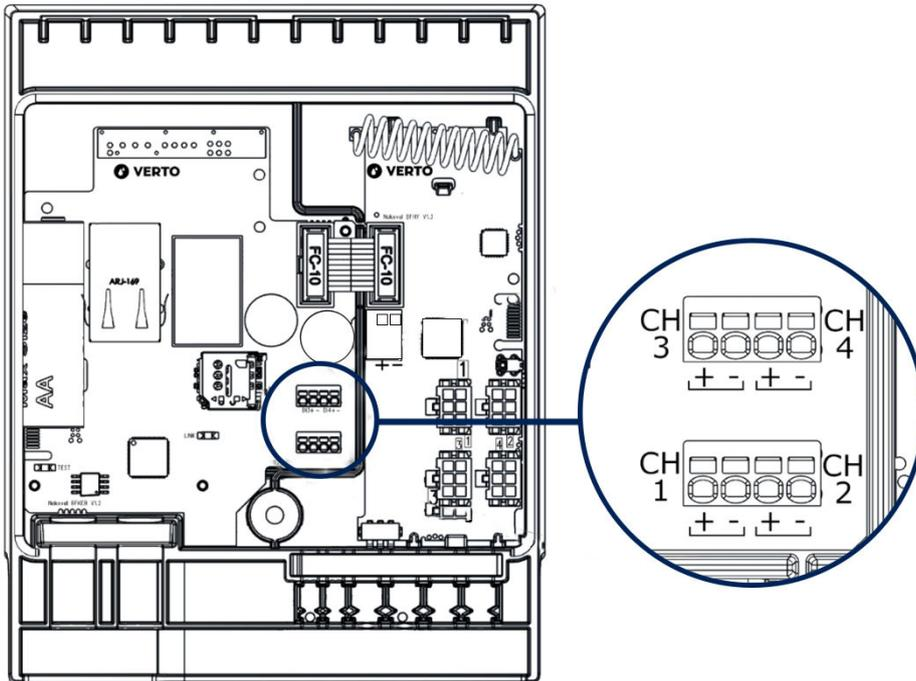

Figure 1: Channels 1–4 in the connection table of the collection unit
1. Connect any impulse sensors located in the same space, such as the main water meter, to channels 1–4 in the connection table of the collection unit, see Figure 1.